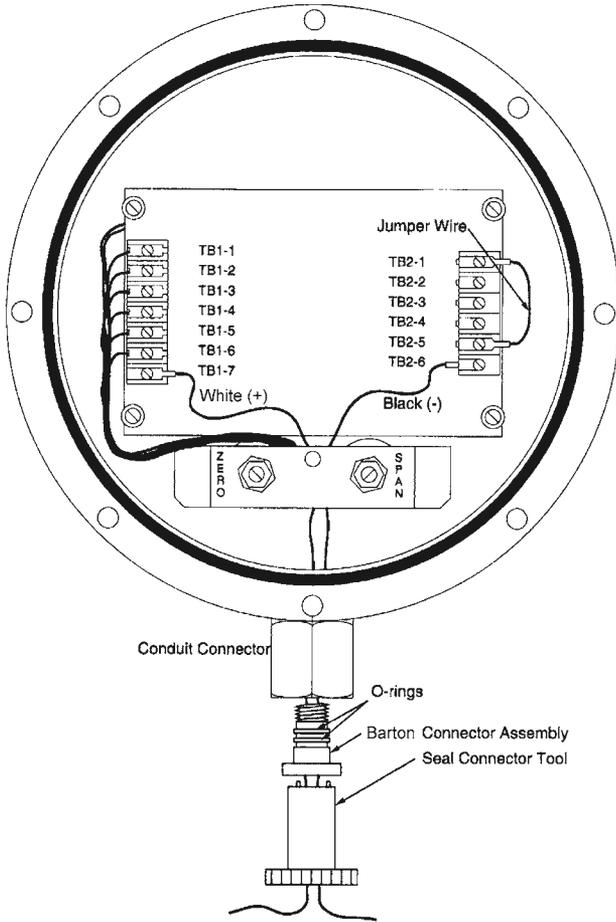

Figure 4.3—Wiring for connector assembly (leadwire) replacement, shown with Barton style connector assembly
3. Disconnect red and black signal leads from the transmitter circuit board (TB 1-7 and TB 2-6) as shown in Figure 4.3, page 29.
5. Insert the connector tool (Part No. 9A-0764-1174B) into the transmitter conduit hub opening and carefully unscrew and remove the connector assembly (connector and two O-rings) as shown in Figure 4.3, page 29.
5. Connect the red and black signal leads of the connector assembly to the transmitter circuit board (TB 1-7 and TB 2-6) as shown in Figure 4.3, page 29.